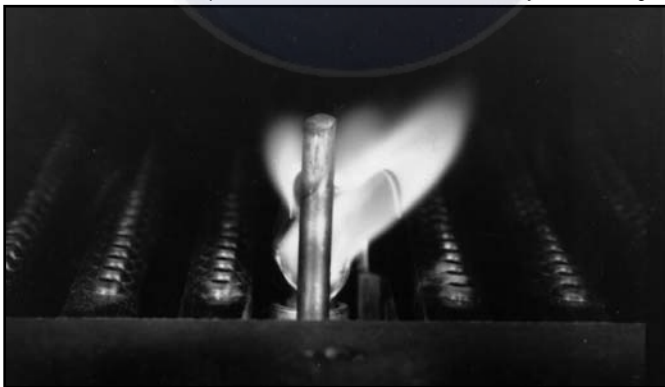

Figure 7. — Pilot Flame Pattern (Standard Burner)
- A. **BURNERS** — Visually inspect the main burner flame and the pilot flame at least every three months. Refer to Figures 7, 8, 9, or 10 for normal flame pattern. Fallen scale can usually be dislodged